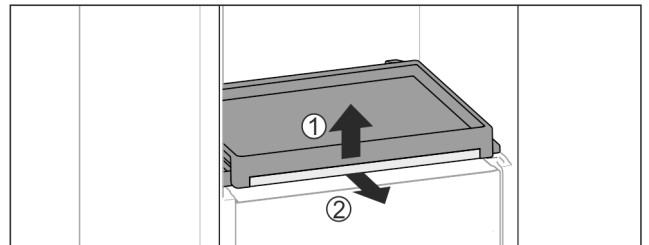

Fig. 49
- ▶ To remove the pull-out board with glass panel: Gently lift the glass panel at the front Fig. 49 (1) and pull out to the front Fig. 49 (2).